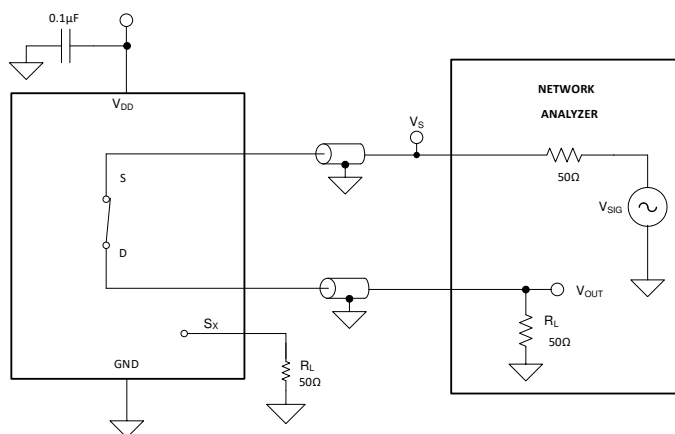

図 6-9. Bandwidth Measurement Setup
Bandwidth is defined as the range of frequencies that are attenuated by less than 3 dB when the input is applied to the source pin (Sx) of an on-channel, and the output is measured at the drain pin (D) of the device. 図 6-9 shows the setup used to measure bandwidth.